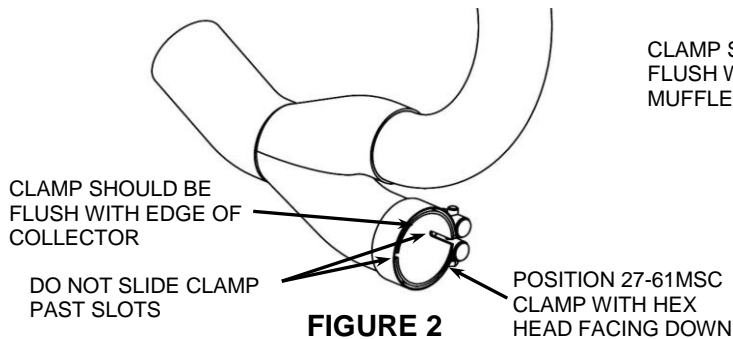
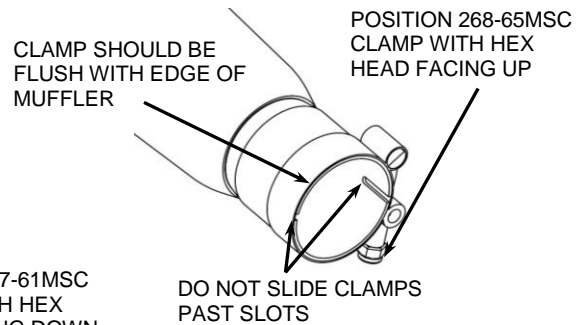

FIGURE 2
FIGURE 3
10. Position the supplied #27-61 MSC clamp with hex head facing the direction shown in **FIGURE 2** over the inlet of the collector on the rear headpipe.
12. Position the muffler clamp with hex head facing the direction shown in **FIGURE 3** over the inlet of the muffler.
14. Secure the muffler assembly to the exhaust mount bracket using the (2) supplied 5/16"-18 bolts but **DO NOT TIGHTEN**.
15. Make sure the muffler assembly, front headpipe, and rear headpipe are aligned properly and tighten in the following order; headpipe flanges to the cylinders (slowly tightening opposing nuts), front headpipe clamp, muffler clamp, and finally the muffler assembly to the exhaust mount. (NOTE: The muffler clamp and headpipe clamp should be flush with the end of the inlets when tightened. See **FIGURE 2 & 3**. If the clamps are slid past the slots on the inlets the clamps will not tighten properly).